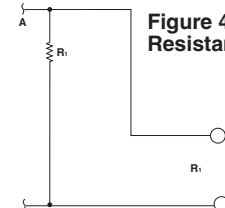

Figure 4 Resistance Mode
2. The resistance mode differs from the voltage mode only by removal of the power source. (See Figure 4.)